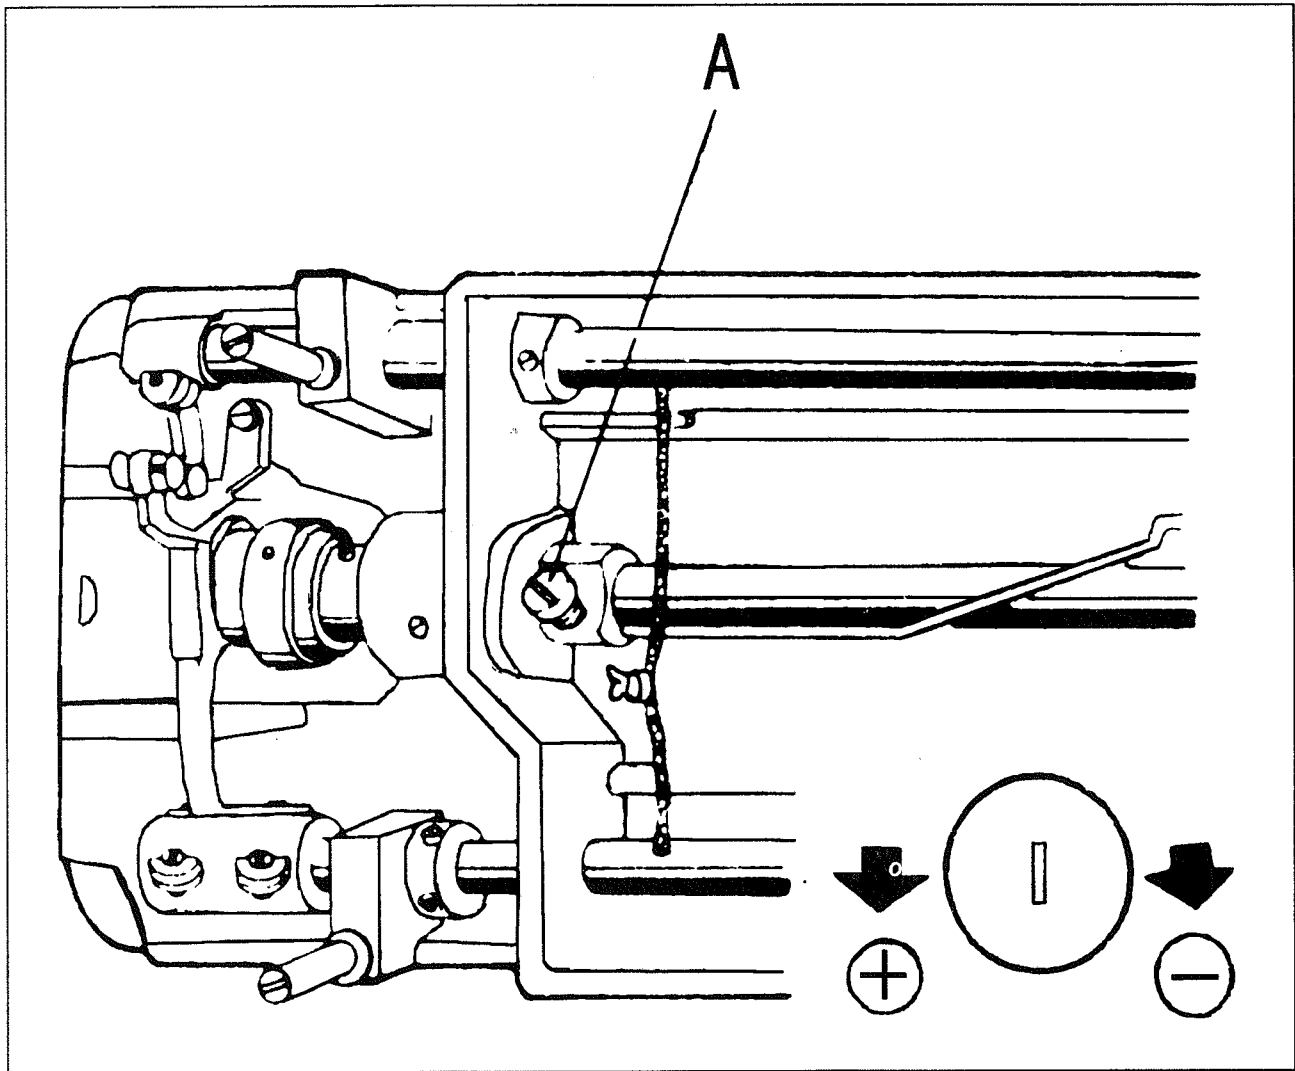

Fig. 31
22. LUBRICATION ADJUSTMENT (Fig.31)